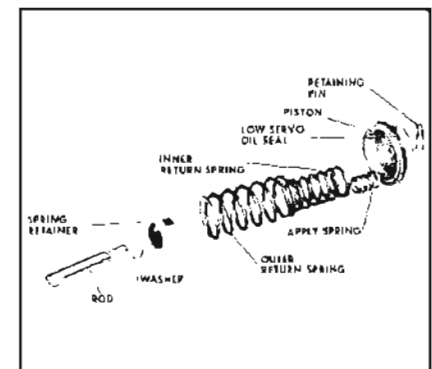
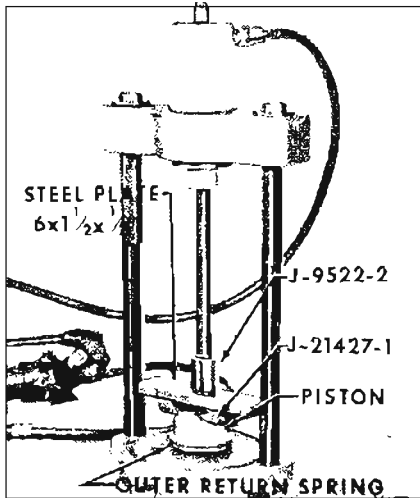

Figure 5-180
Figure 5-181
1. Assemble the inner and outer return springs into the piston. Install spring retainer. See Figure 5-180. Install this assembly into the ram press as shown in Figure 5-181.
Install low servo piston seal. See Figure 5-181.